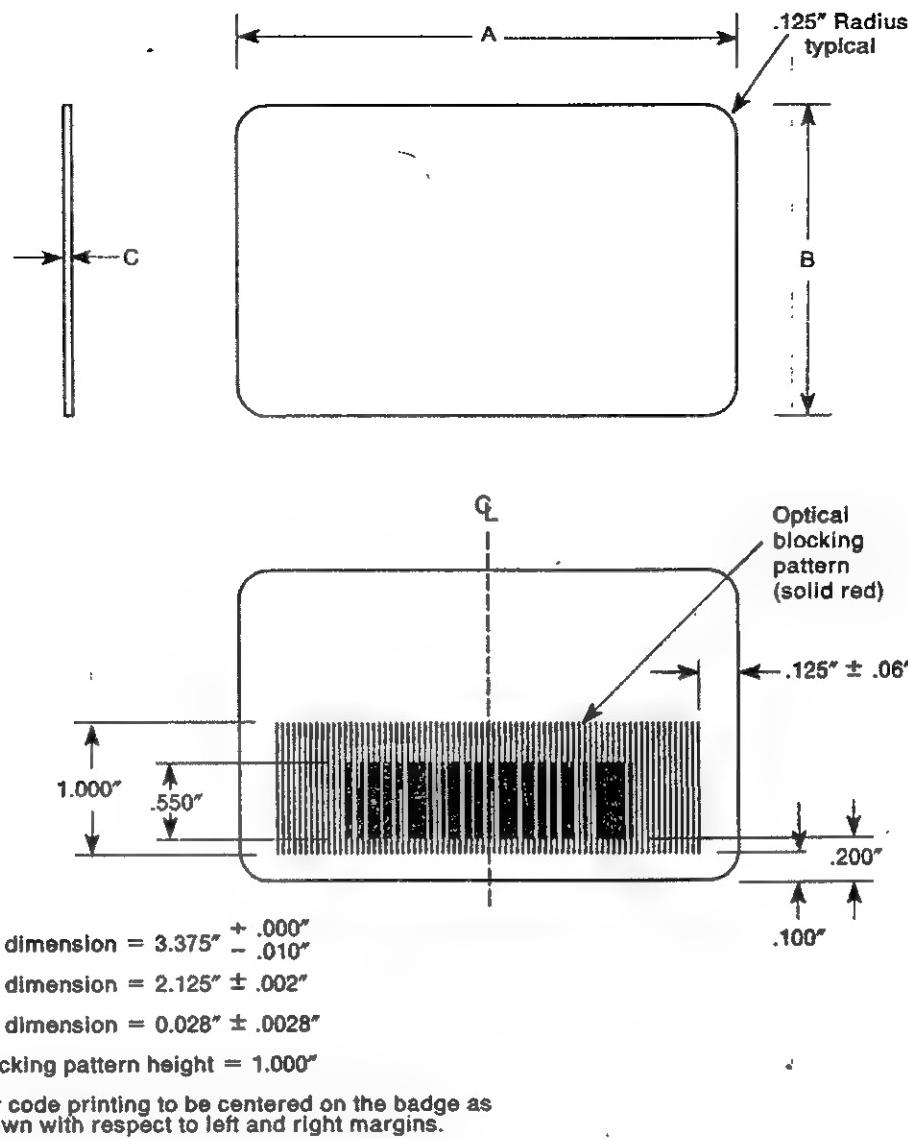

Figure C-2. Badge Printing Specifications
- The dimensions of the badge shall be as shown in Figure C-2 on page C-7.
- Printing on the back of the card shall conform to specifications shown in Figure C-2 on page C-7.